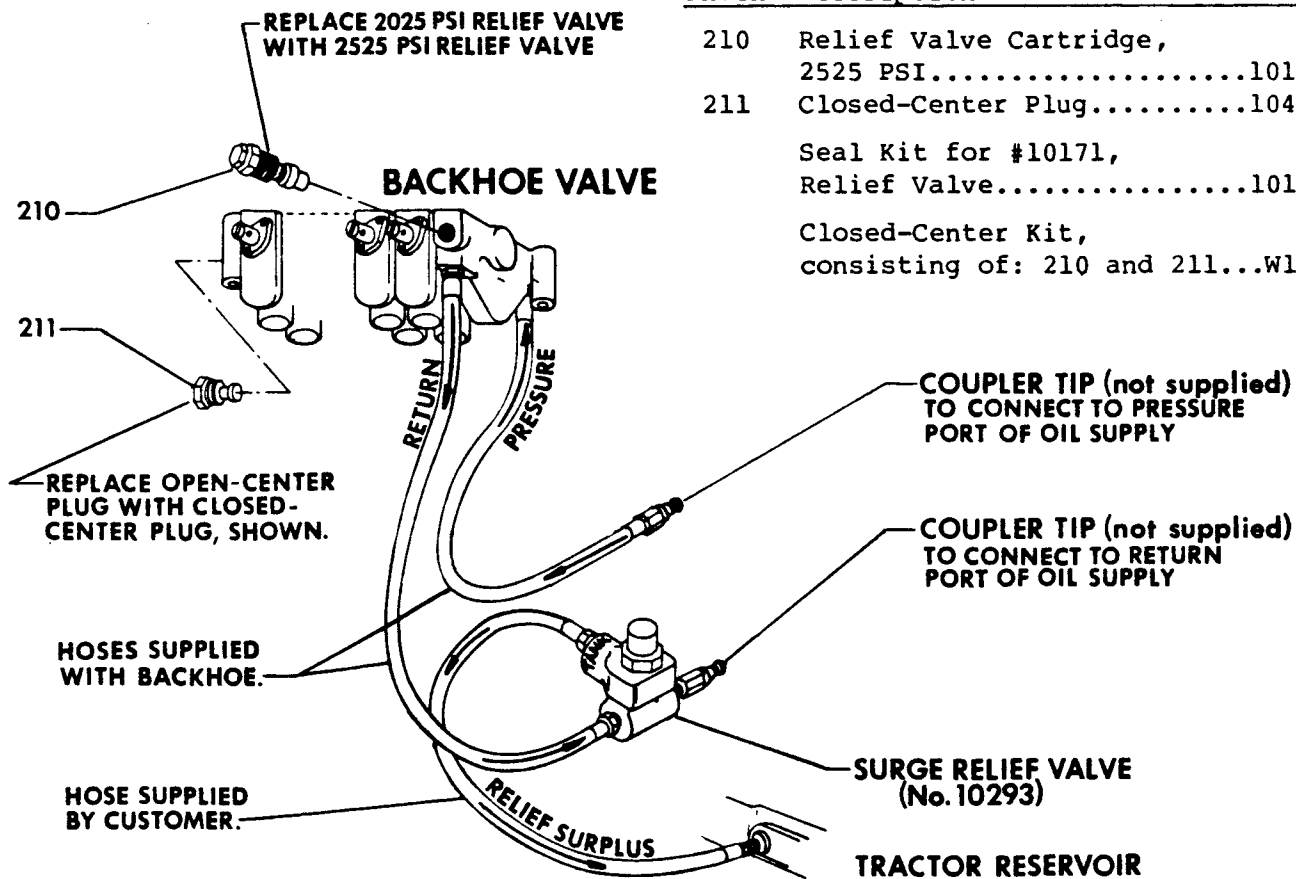

FIG 25
2. CLOSED-CENTER SYSTEM - Fig 25:
PARTS LIST - FIG 25